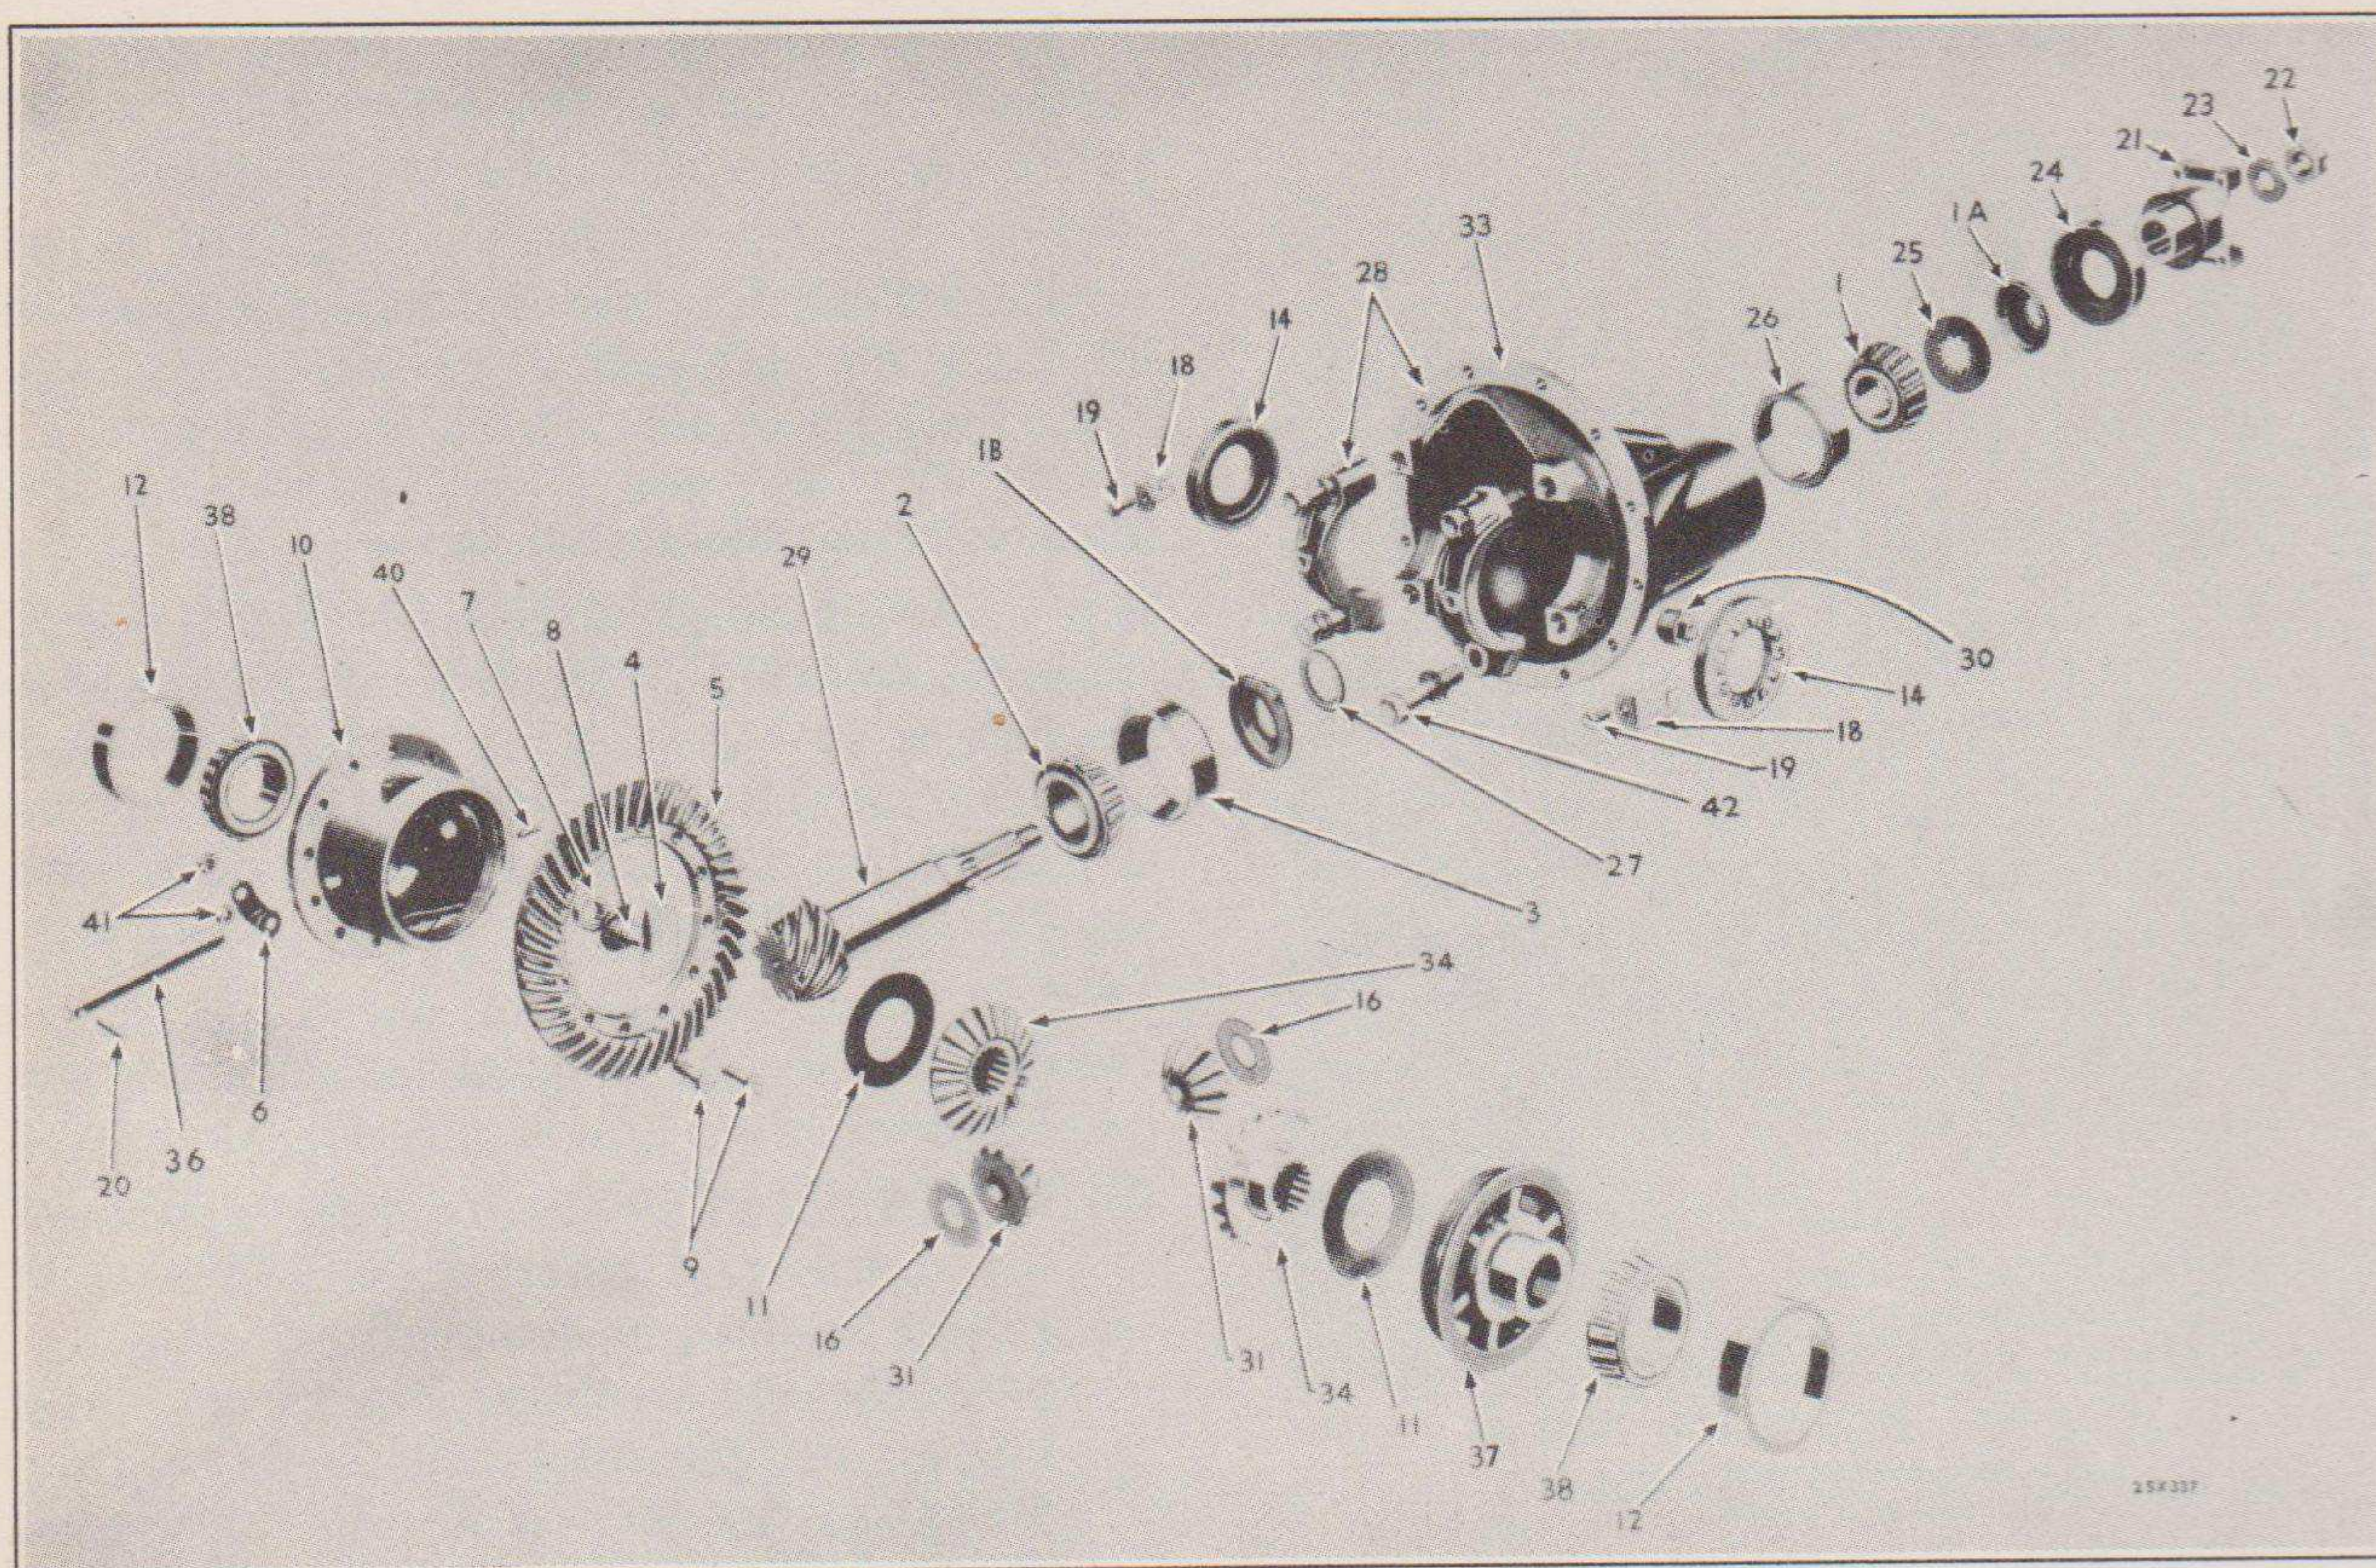

Fig. 51—Front and Rear Axle Differential (disassembled view)
- (d) Remove the retaining nuts and lock washers, holding the differential carrier to the axle housing. See Figs. 51 and 52.
Figs. 51 and 52—Front and Rear Axle Differential